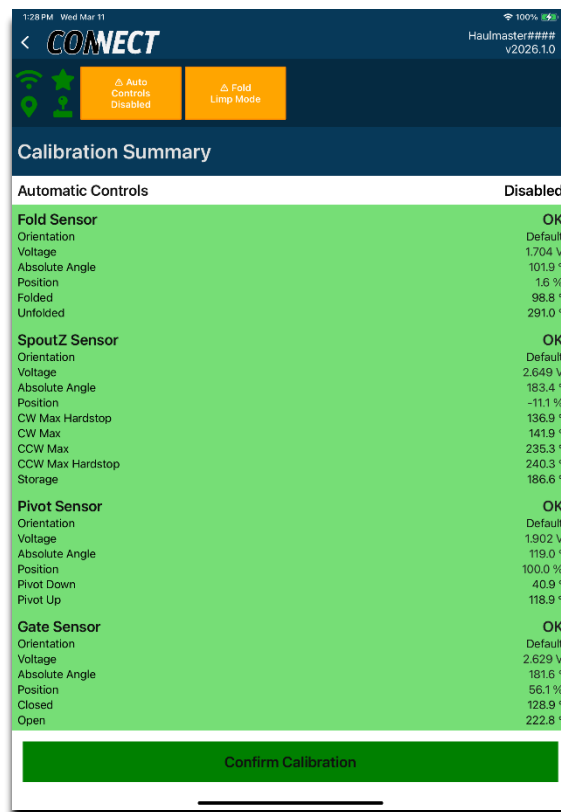

Figure 56 Confirm Calibration
17. A calibration summary screen will appear, showing all the calibration information. Press **Confirm Calibration**. See the bottom of Figure 56.